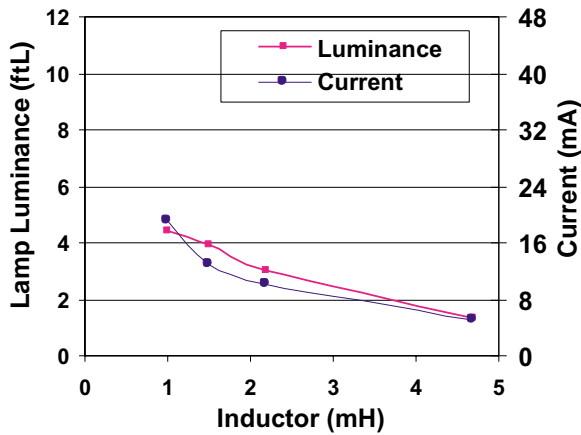

Figure 3: V+=1.5V, 1 in2 EL Lamp
The external inductor (L) selection for a D356B circuit greatly affects the output capability and current draw of the driver. A careful designer will balance current draw considerations with output performance in the choice of an ideal inductor for a particular application. Figures 3, 4, and 5 show typical brightness and current draw of a D356B circuit with different inductor values, lamp sizes, and supply voltages. Please note that the DC resistance (DCR) of inductors with the same nominal inductance value may vary with manufacturer and inductor type. Thus, inductors made by a different manufacturer may yield different outputs, but the trend of the different curves should be similar. Lamp luminance is also a function of lamp size. In each example, a larger lamp will have less luminance with approximately the same current draw.